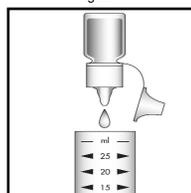

Figure 2
2. Add **5 drops** of S-9500 Activator Solution (fig. 2). Stir to mix the contents of the cup.